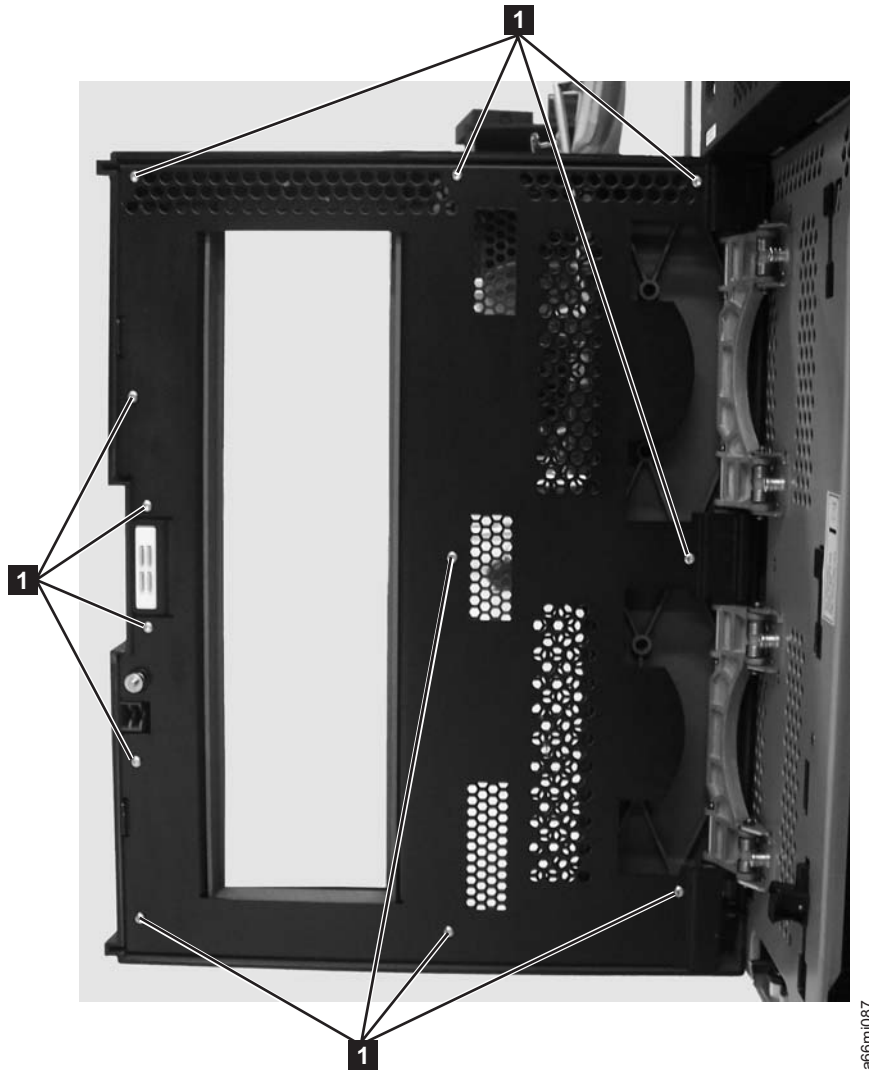

Figure 8-13. Expansion module Access Door screw locations
- For an expansion module (12 screws, see **1** in Figure 8-13 on page 8-20.